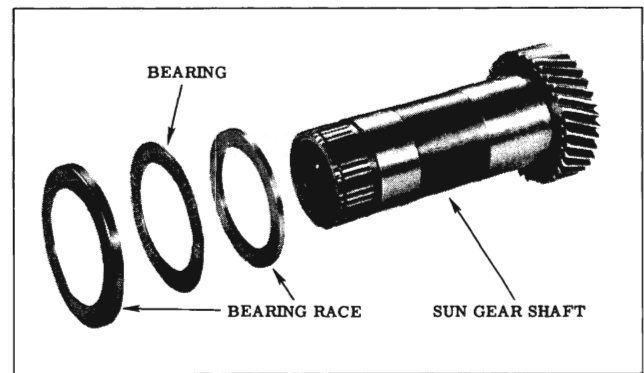

Fig. 3-98 Bearing and Races
15. Install thick bearing race, thrust bearing and the thin cupped bearing race on front sun gear and shaft assembly. (Fig. 3-98)